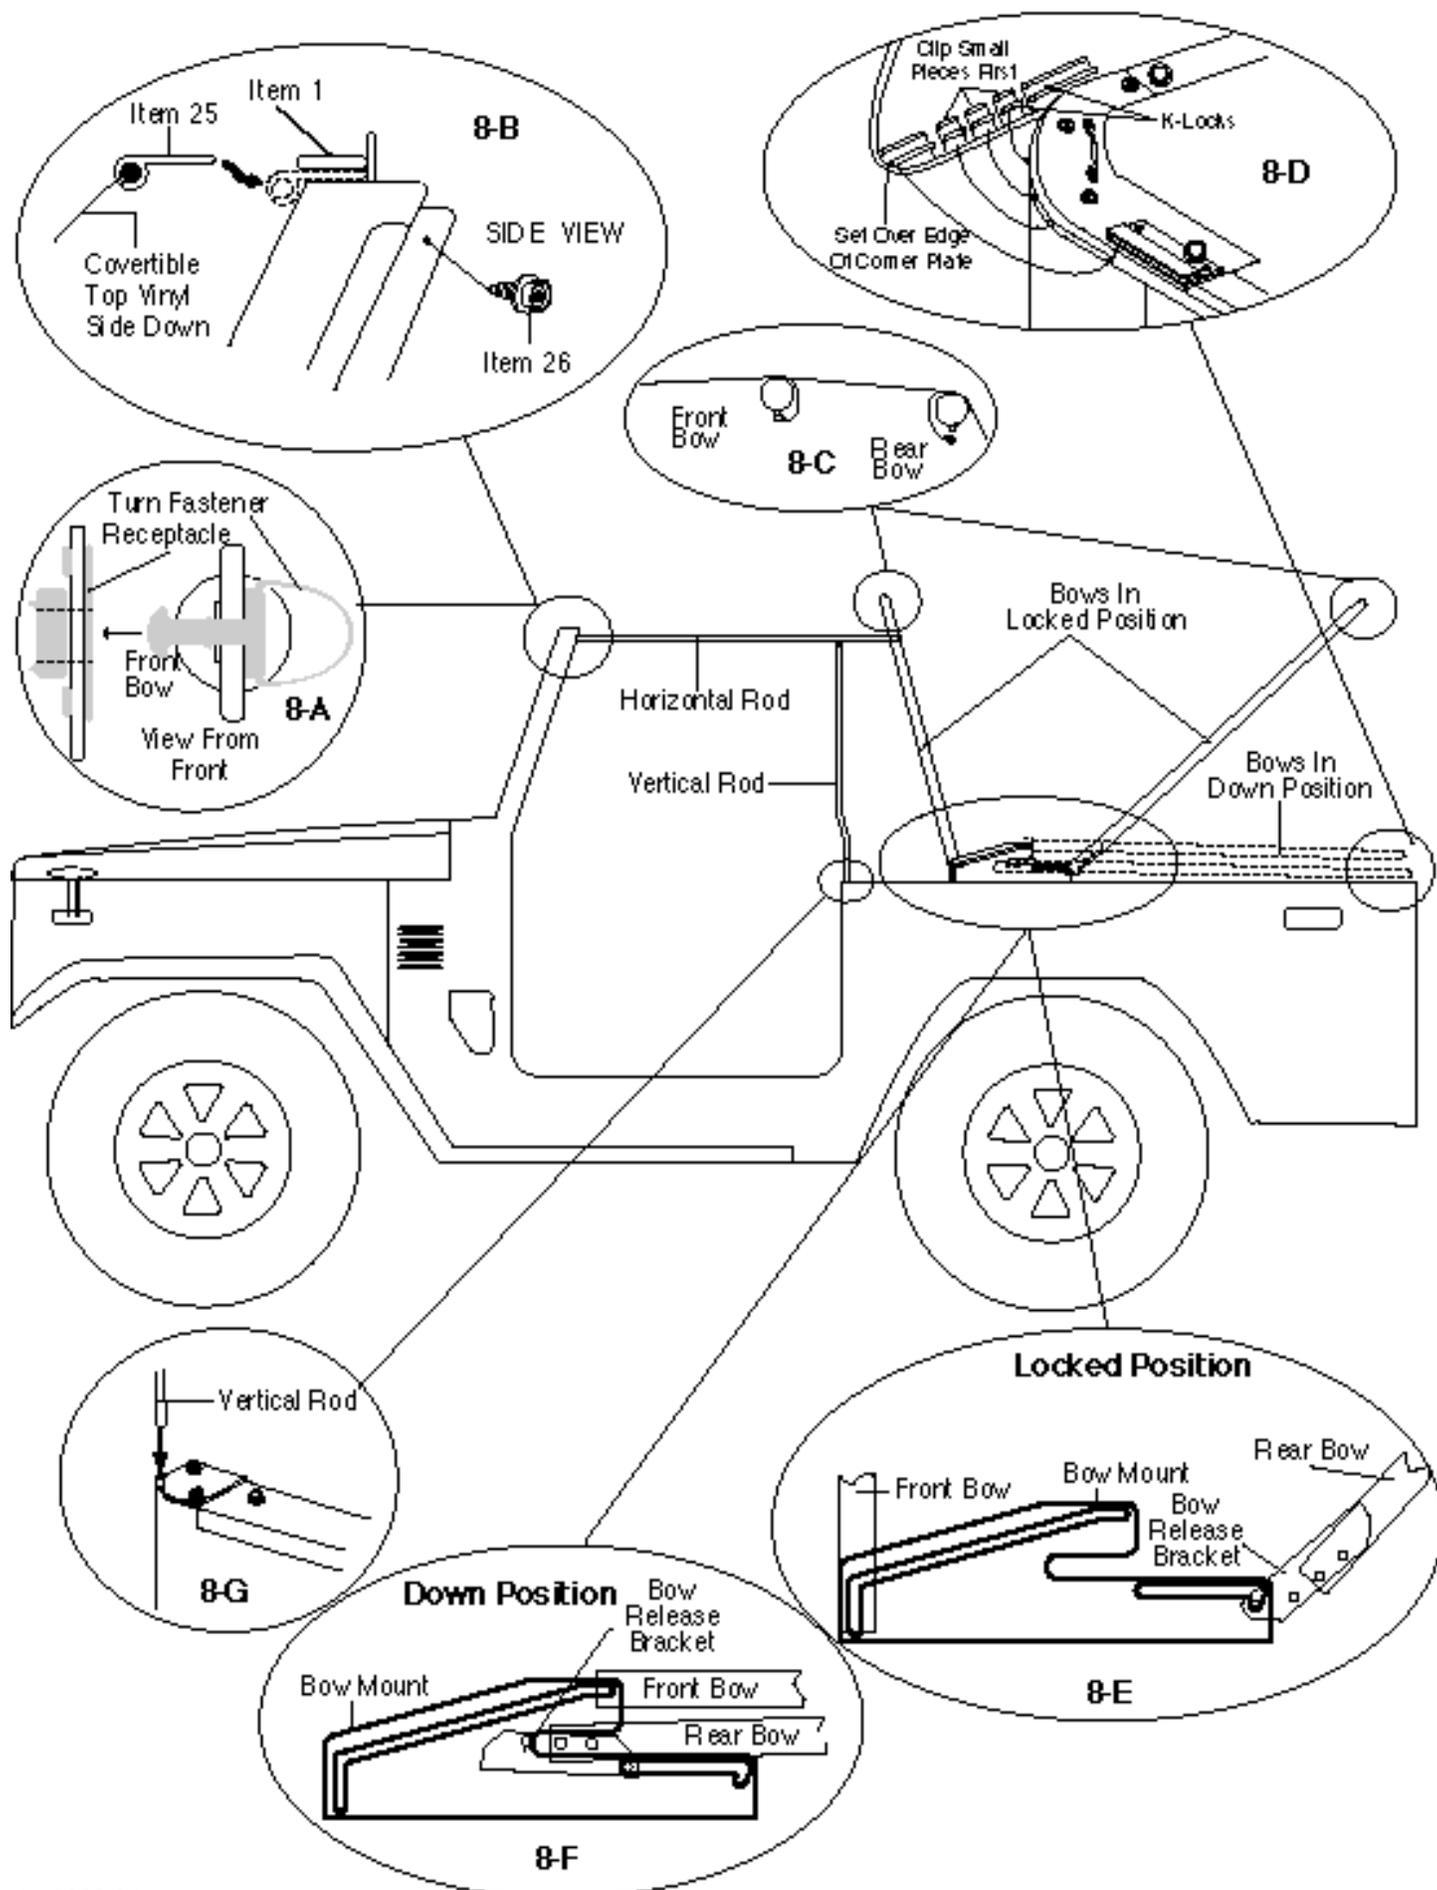

**Figure 6**
**Step 5. Bow Mount** Mark a line on top of belt rail 17 1/4" from rear of door post. Place the end of bow mount (Item 17) on this line flush with the inside edge of belt rail. Using outside set of holes in bow mount as a template, drill 5/32" holes in belt rail. Secure bow mount to body using #14 x 1/2" sheet metal screws (Item 8) through holes in bow mount. Repeat for the other side. See figure 6.